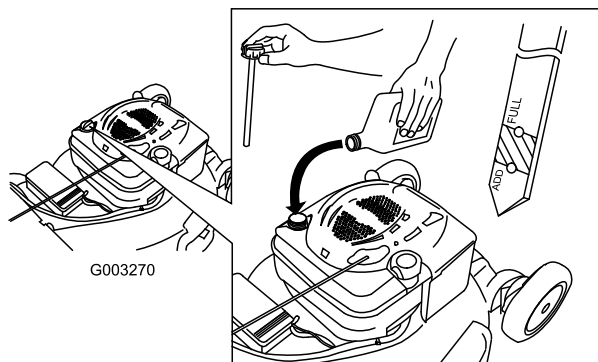

Figure 10
1. Remove the dipstick, wipe it clean, and fully install the dipstick (Figure 10).
2. Remove the dipstick and check the oil level (Figure 10). If the oil level is below the Add mark on the dipstick, **slowly** pour oil into the oil fill tube to raise the oil level to the Full mark on the dipstick. **Do not overfill.** (Max. fill: 20 oz. (0.59 l), type: SAE 30 detergent oil with an API service classification of SF, SG, SH, SJ, SL, or higher.)